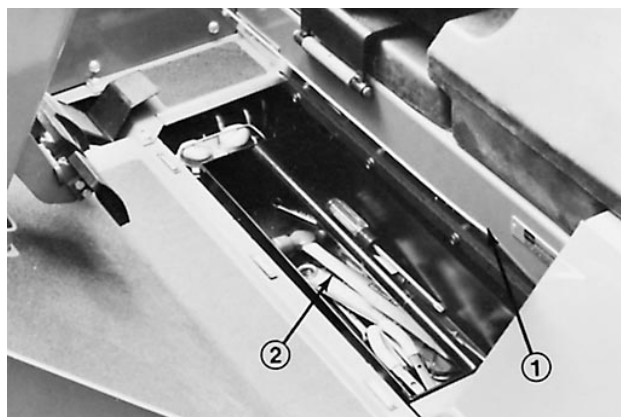

Figure 53
1. Raise the floor panel in the front of the seat (Fig. 53). Remove the tool tray.
2. Remove the deck tilt link from the tool box under the traction unit floor (Fig. 53) and klik pins from the weldments on the traction unit frame and cutting unit lift arm.